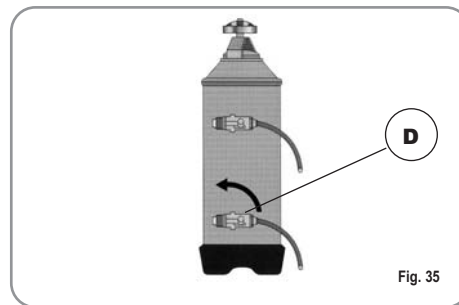

Fig. 35
- 3) Reposition lever D towards the left (Fig. 35).